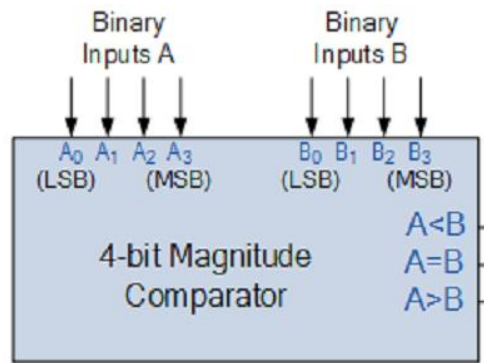

Figure 2. Block diagram of n-bit Magnitude Comparator
- The logic diagram of the four-bit magnitude comparator is shown in Figure 2.